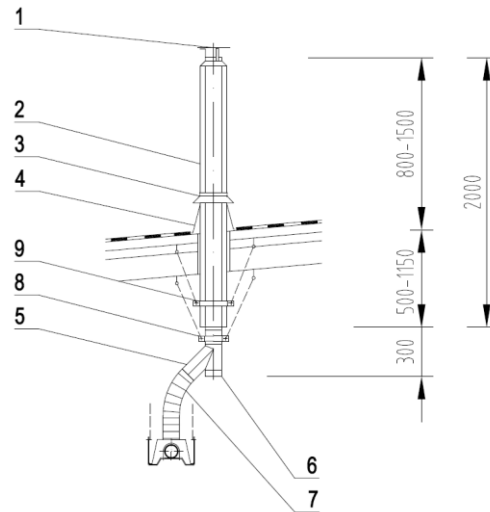
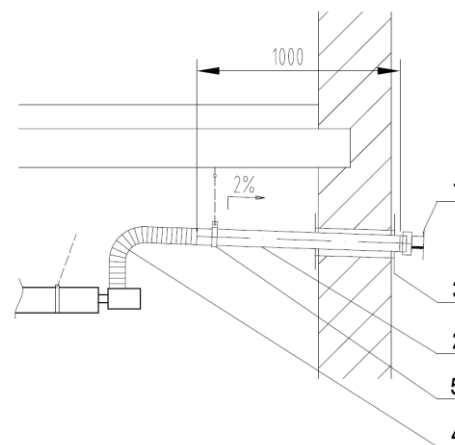

Fig.7 Typical chimney set trough the roof
Fig.8 Typical chimney set trough the wall
In the figure 7 there is shown typical chimney through the roof O-V, in the figure 8 typical
**Basic set O-V (fig.7)**
**Basic set O-H (fig.8)**
Type C appliance represents appliances where the combustion circle is closed towards the ambient area. Heater in that case features concurrently chimney for flue gas venting and combustion air inlet for the outdoor air (typical solutoion see figures 7, 8, 9, 10).